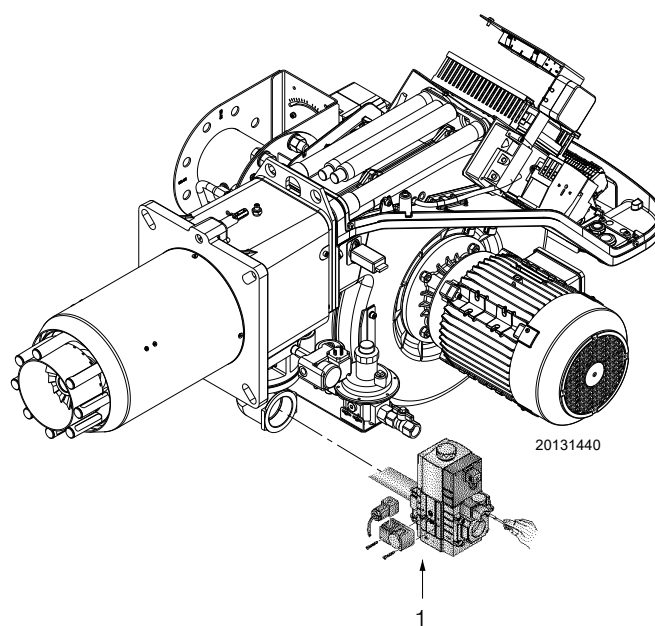

Fig. 40
- Check the gas supply pressure by connecting a pressure gauge to the pressure test point 1)(Fig. 40) of the minimum gas pressure switch: it must be lower than the maximum allowed pressure of the gas train, as shown on the characteristics label.
- Bleed the air from the piping of the gas train, connecting a plastic tube to the pressure test point 1)(Fig. 40) of the minimum gas pressure switch.